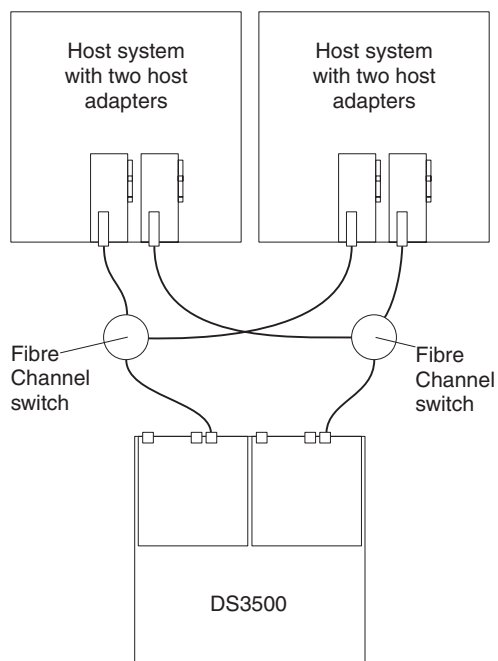

Figure 3-47. Example of a dual Fibre Channel SAN fabric configuration
- Dual SAN fabric configuration, as shown in Figure 3-47 on page 3-37
In Figure 3-47, the Fibre Channel switches are *not* connected together through an ISL. Each switch forms its own SAN fabric. This configuration is also the configuration to use for a dual-node cluster configuration.